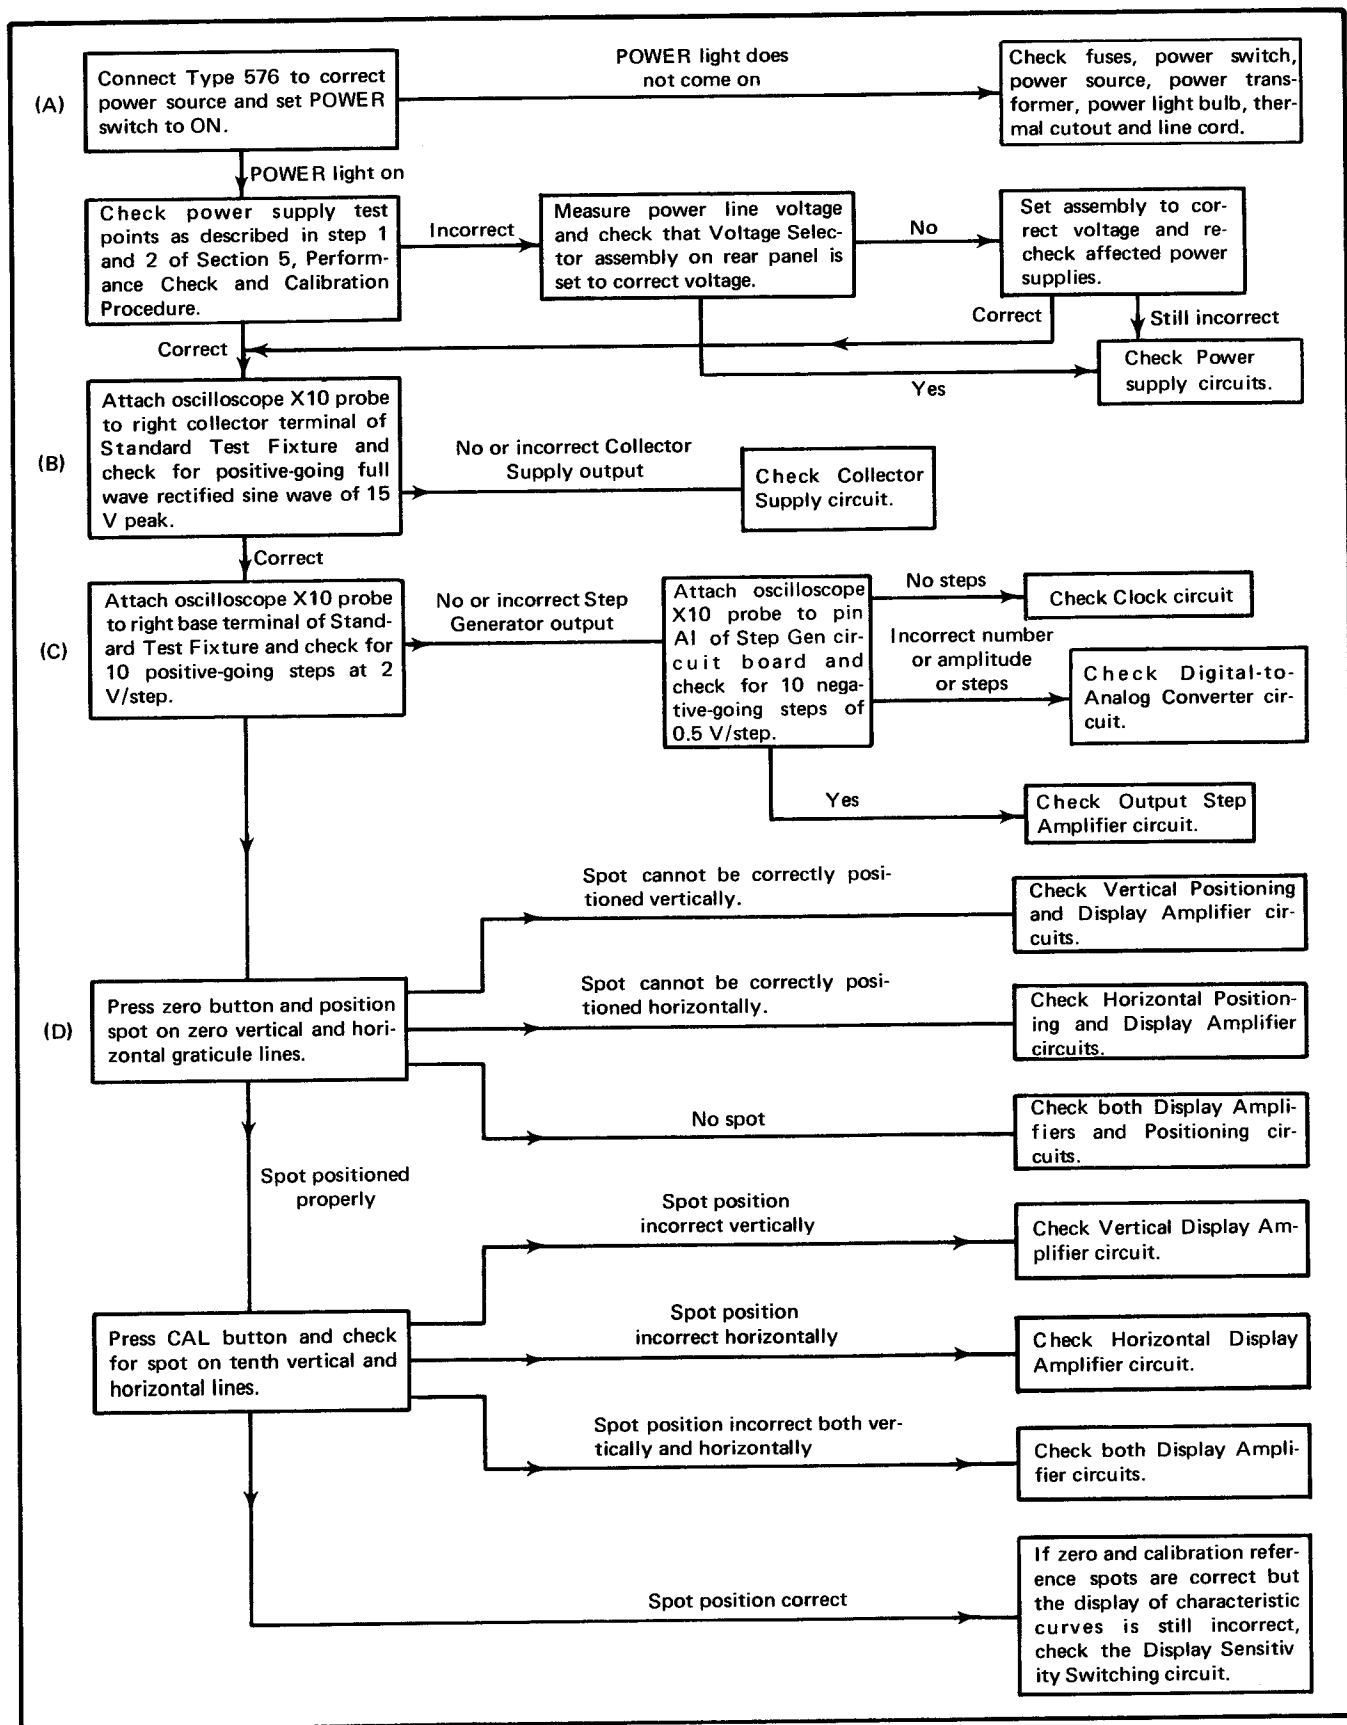

Fig. 4-3. Troubleshooting chart.
If the trouble symptom does not indicate which circuit(s) is causing problems (for example if there were no Collector Supply or Step Generator outputs), a more systematic troubleshooting procedure is necessary. Fig. 4-3 provides a general guide for locating the probable circuits which are causing the instrument to malfunction.
H. Start with the following step on Fig. 4-3 according to the results of the previous checks:
1. Step (A)—No Collector Supply output; Step Generator output or display on the Type 576 CRT.
2. Step (B)—No Collector Supply output or incorrect output, but Step Generator is displayed and the spot can be seen on the Type 576 CRT.
3. Step (C)—No Step Generator output (or incorrect output), but Collector Supply is displayed on the Type 576 CRT.
4. Step (D)—No display on type 576 CRT (or incorrect display), but Collector Supply output and Step Generator output are displayed properly on the test oscilloscope CRT.